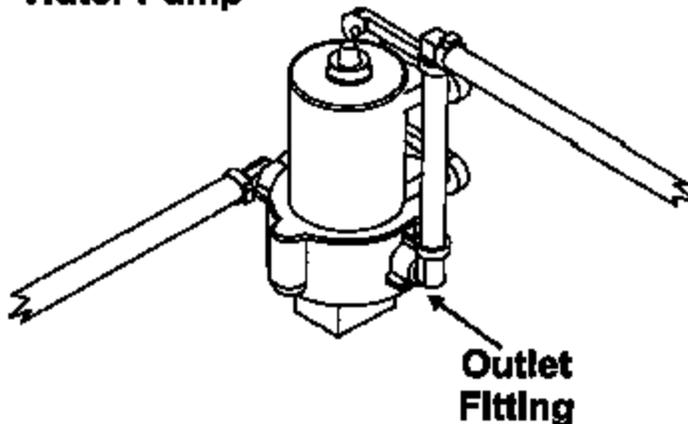

Fig. 6
5. Locate and remove the hose from the water pump's outlet fitting. (See Fig. 6)